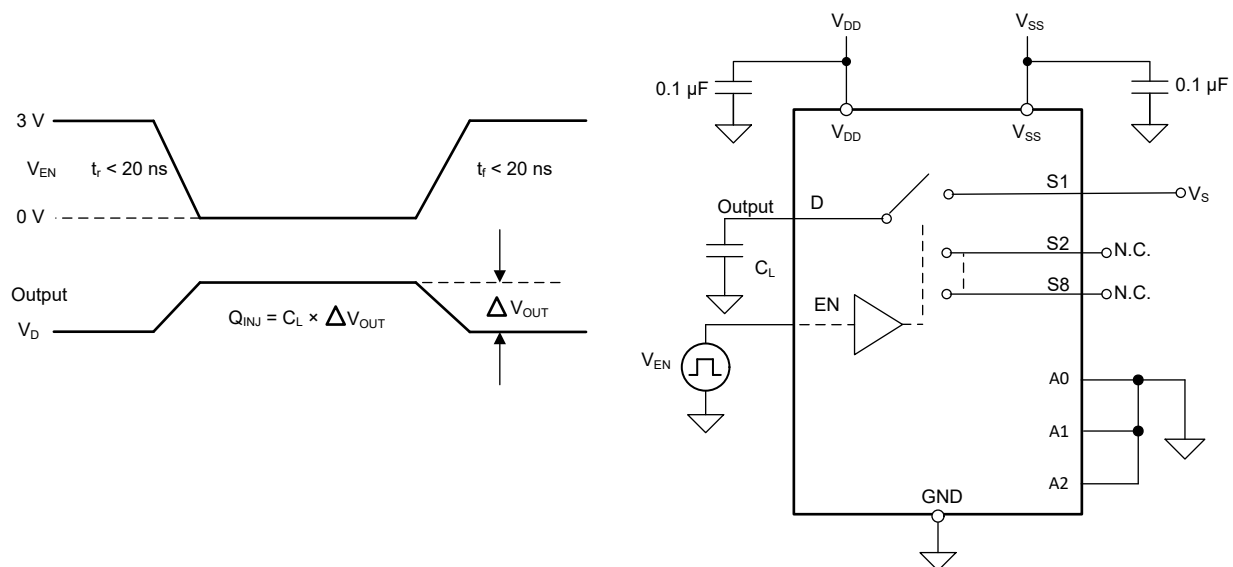

Figure 7-9. Charge-Injection Measurement Setup
The TMUX7208 has a transmission-gate topology. Any mismatch in capacitance between the NMOS and PMOS transistors results in a charge injected into the drain or source during the falling or rising edge of the gate signal. The amount of charge injected into the source or drain of the device is known as charge injection, and is denoted by the symbol Q_{INJ} . Figure 7-9 shows the setup used to measure charge injection from source (Sx) to drain (D).
The TMUX7208 and have a transmission-gate topology. Any mismatch in capacitance between the NMOS and PMOS transistors results in a charge injected into the drain or source during the falling or rising edge of the gate signal. The amount of charge injected into the source or drain of the device is known as charge injection, and is denoted by the symbol Q_{INJ} . Figure 7-9 shows the setup used to measure charge injection from source (Sx) to drain (D).